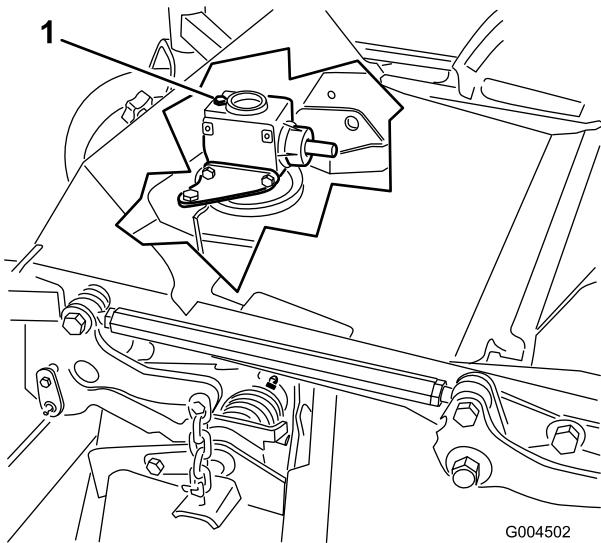

Figure 63
6. Remove the dipstick/fill plug from the top of the gear box (Figure 63) and make sure that the lubricant is between the marks on the dipstick.
6. Remove the dipstick/fill plug from the top of the gear box (Figure 63).